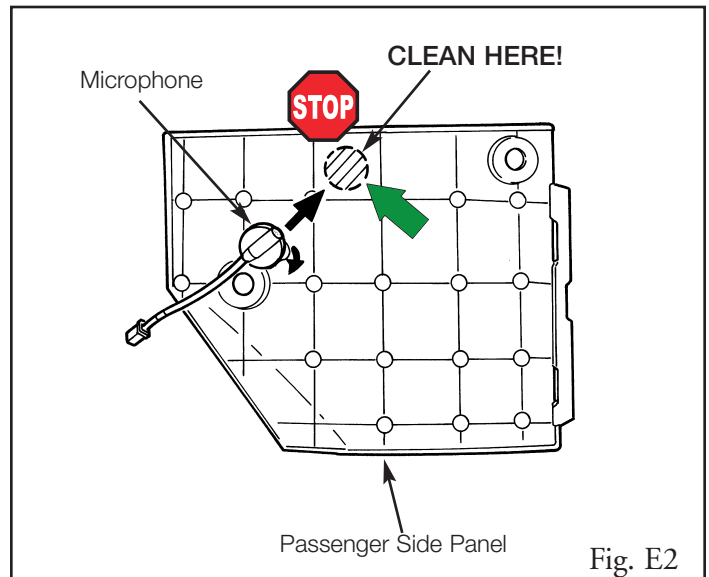

Fig. E2
STOP 2. Using 3M Prep Solvent -70, clean the area indicated on the back side of passenger side panel. (Fig. E2)
3. Remove the backing sheet, and secure the microphone to the back side of the passenger side panel. (Fig. E2)